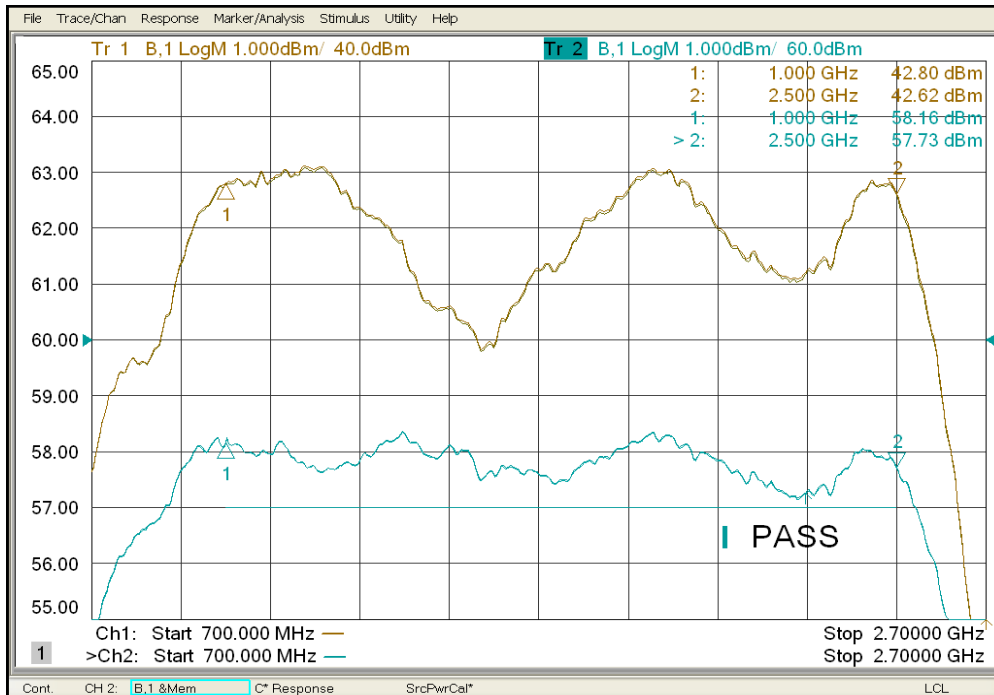

Figure 4-1. Typical Response at -20 dBm and 0 dBm Input
- The Model 500S1G2z5A’s typical gain response at 0 dBm input and -20 dBm input is shown in Figures 4-1 and 4-2. The actual gain may vary considerably from that shown in Figure 4-1 but should be ≥ 61.0 dBm. PSAT (0 dBm Input) should be ≥ 57.0 dBm. *NOTE: If the overall gain is low, the amplifier chain can be separated at the input of A4 Two-Way Splitter.*